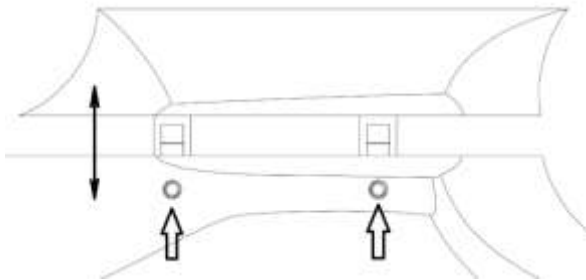

Fig.10
- Loosen the two socket head screws situated on the right side of the stock (Fig.10)